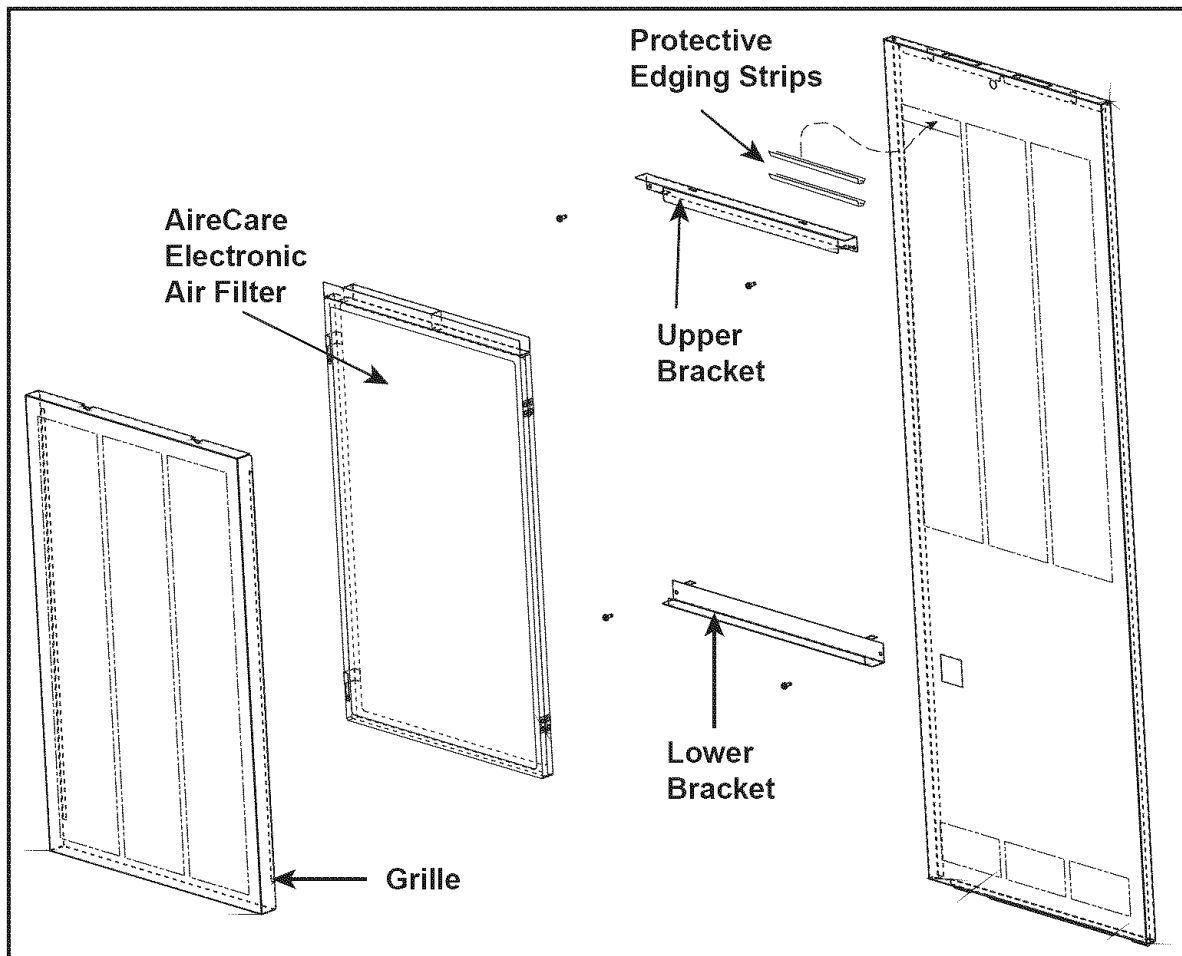

Figure 1. M1 Bracket Installation
1. Install the protective sheet metal edging strips into the upper left louver of the M1 door (See Figure 1).
2. Locate the bottom bracket (See Figure 1) and remove the protective tape from the back.
4. Locate the top bracket (See Figure 1) and remove the protective tape from the back.